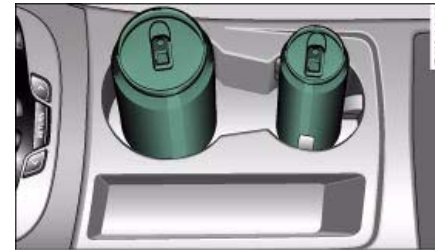

Fig. 96 Centre console: Front cup holder
- Two drinks can be placed in this cup holder ⇒ fig. 96.